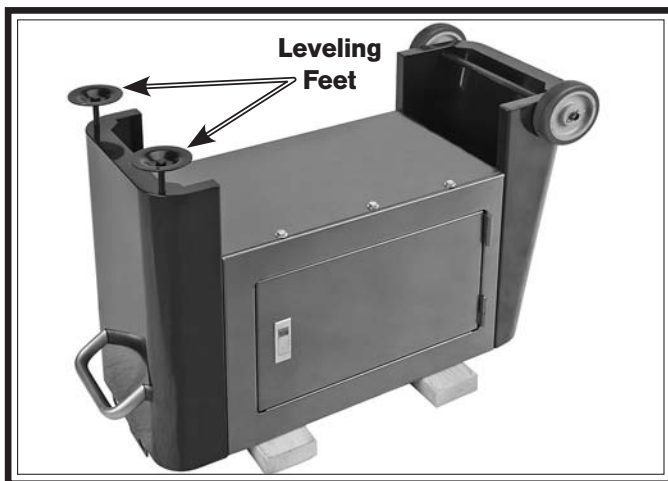

Figure 12. Leveling feet.
7. Thread the leveling feet into the stand assembly, as shown in **Figure 12**. You can adjust these later as needed to level the bandsaw.